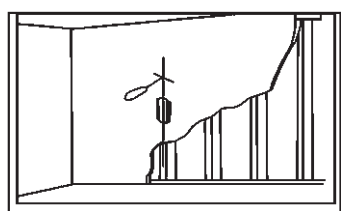

Fig. 3a
1. Use a pencil, awl, or a nail to mark the location of the wall stud centers (Fig 3a) after locating the stud with an electronic stud locator.